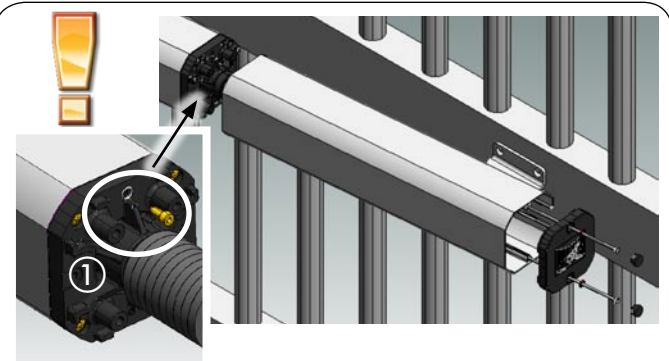

Fig. 16
16. Remove the bleed screw (Fig.16 ref. ①) paying special attention to leave the sealing O-Ring in its seat
17. Install the metallic protection cover as shown in Fig. 16, insert and tighten both tie-rods